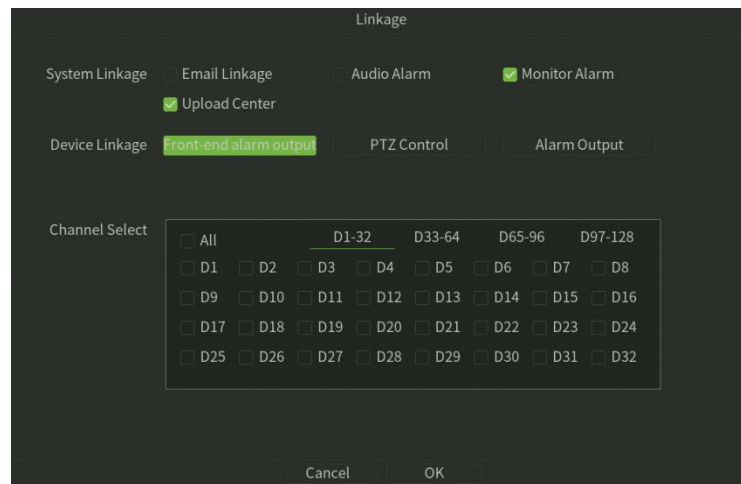

Figure 6.17 Linkage
3. Click Linkage button, Setup the linkage operation of the function, as shown in figure 6.17.